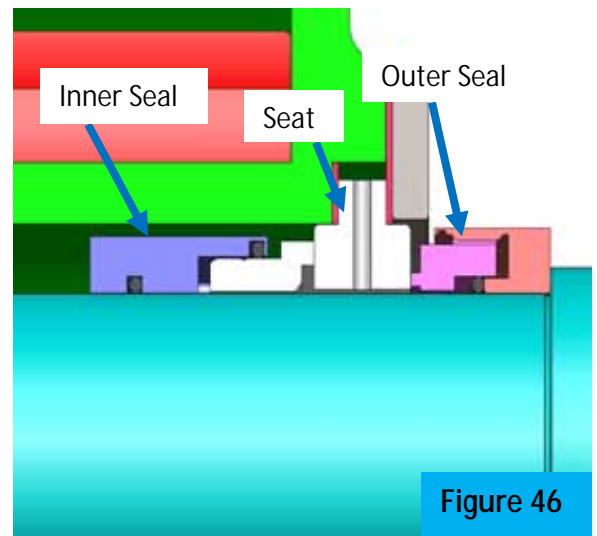

Figure 46
1. Clean shaft of all product on shafts and make sure shaft is free of all burrs and nicks. Loosen set screws from the inner seal and slide off shaft, Figure 46.